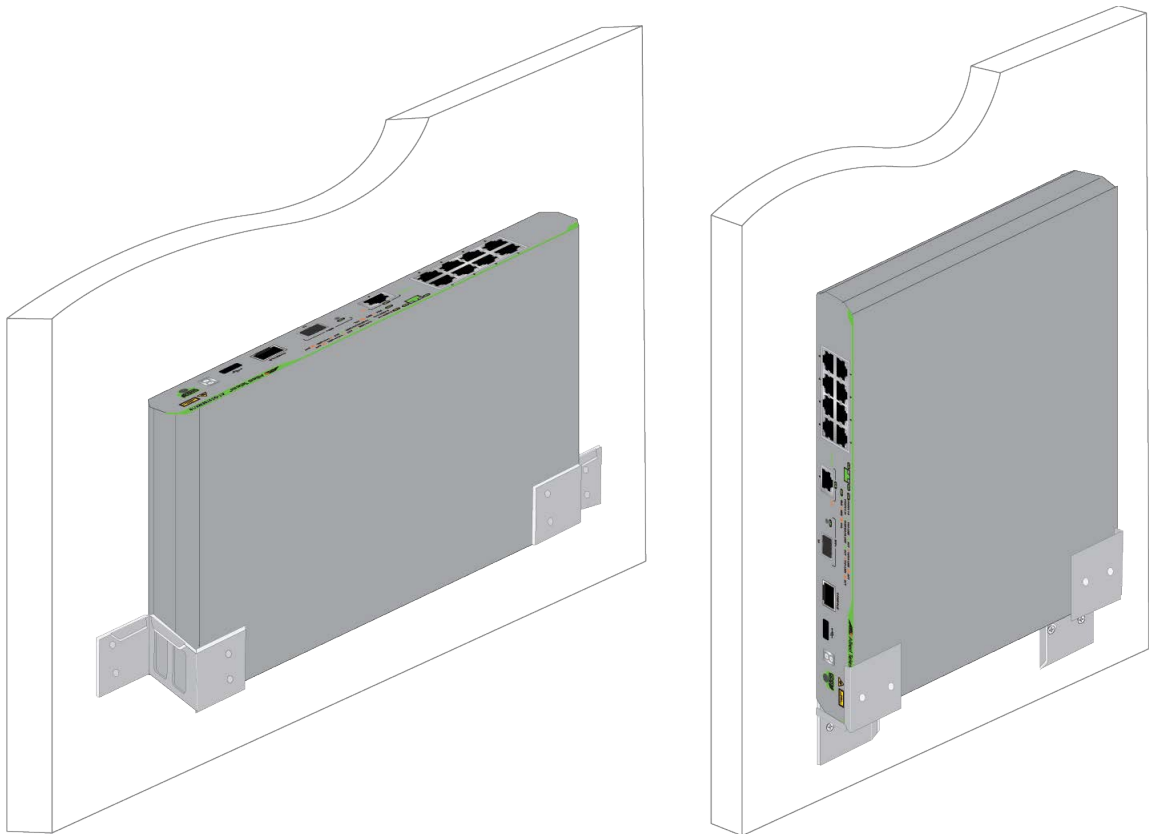

Figure 1. Orientations of the Brackets to a Switch
- ❑ Apply the BRKT-J23 brackets to the switch as shown in Figure 1.